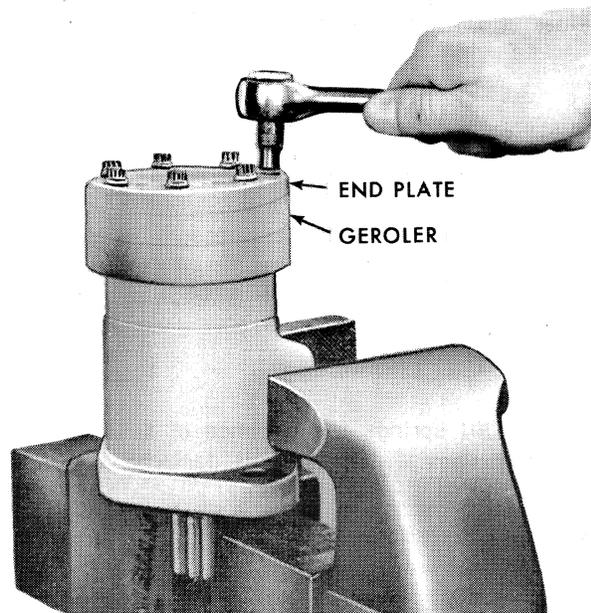

Figure 9
1. Clamp the hydraulic motor in a vise across the ports, as shown in Figure 9.